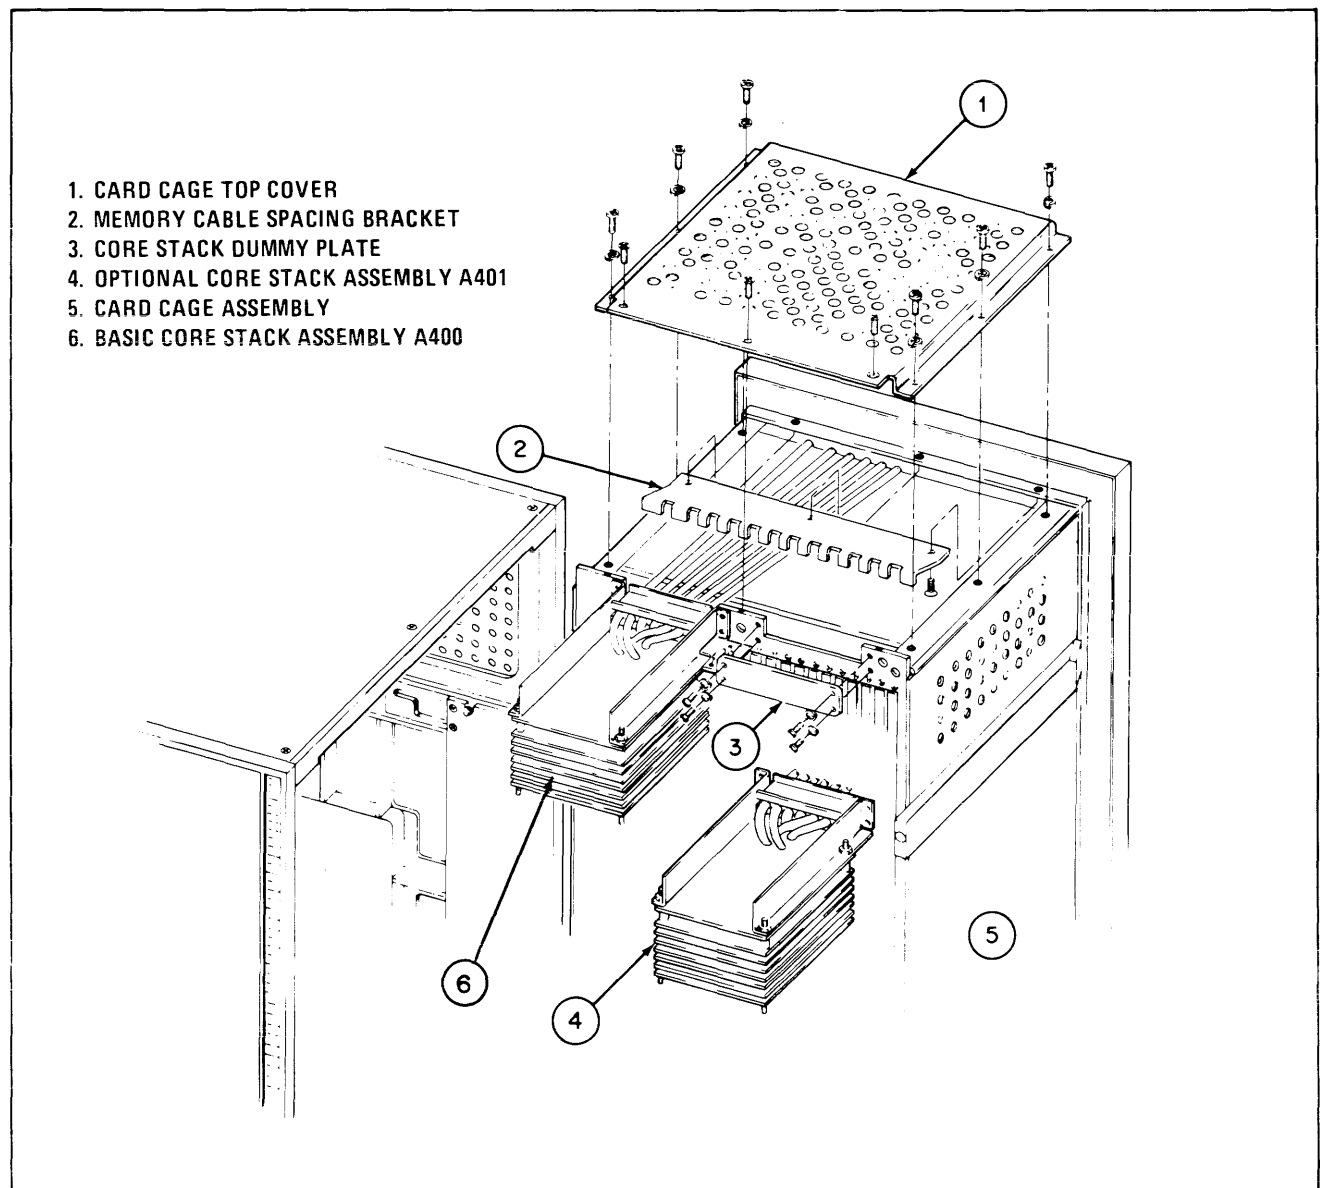
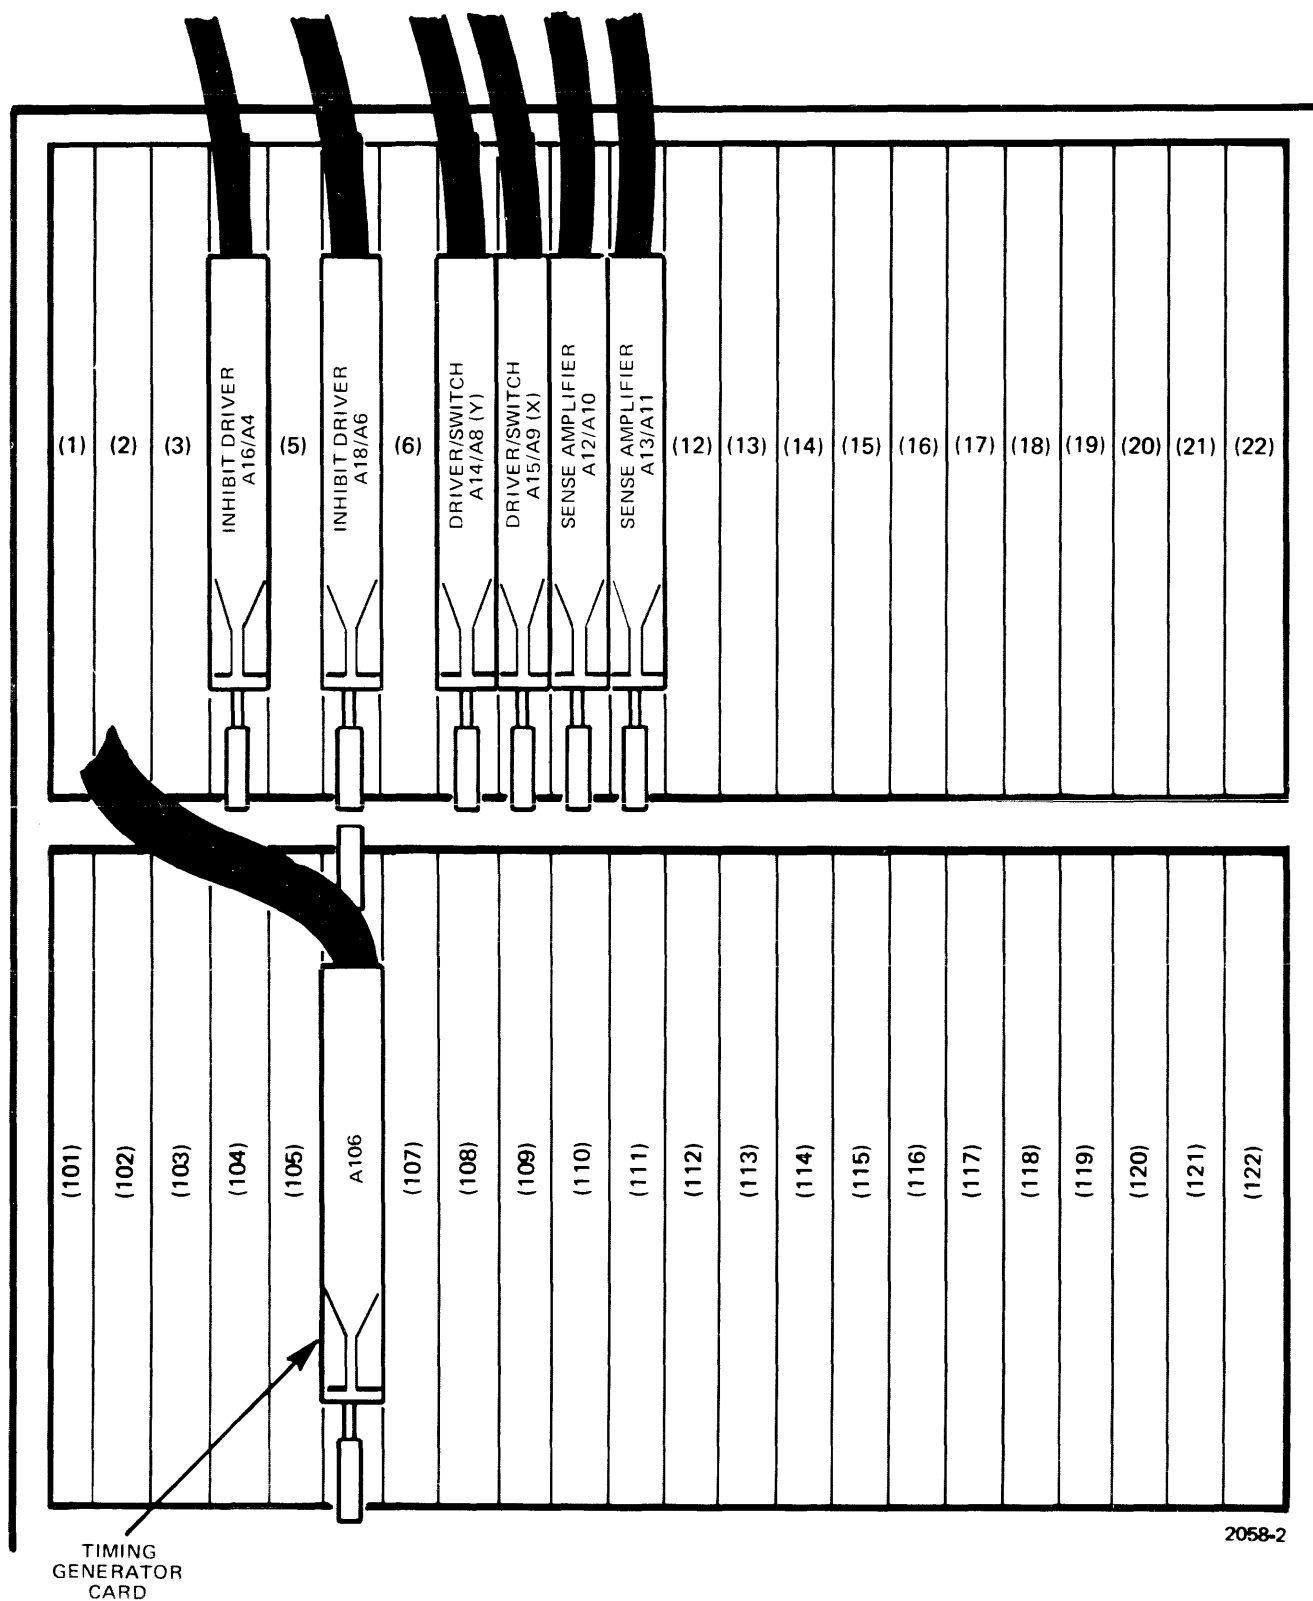

Figure 2-1. Installation of Core Stack Assembly
Figure 2-2. Front View of the Card Cage Showing the Location of Cards, Cables, and Connectors Associated with the 16K Memory Option
- c. Open the door assembly to expose the front of the card cage assembly (5, figure 2-1). Remove the four retaining screws securing the card cage to the mainframe. Fully extend the card cage from the cabinet until it locks
in place. Then swing the card cage to the position shown in figure 2-1 to provide access to where optional core stack assembly A401 is to be mounted.
f. Check the routing of the memory cables from A401 to the front of the card cage. Make sure that the cables are not crossed and that the hooded connectors align with the proper card slots (see figure 2-2).
g. Replace the memory cable spacing bracket (2, figure 2-1). When installing this bracket, make sure that the memory cables are not pinched or strained.
h. Carefully inspect the installation of core stack assembly A401. Make sure that all hardware items have been replaced and tightened. Then replace the card cage top cover (1).
j. Check that the part numbers of the sense amplifiers installed in slots 12 and 13 of the computer are the same as the part numbers of the two sense amplifiers supplied in the accessory kit. The part numbers must be the same. Then install all six optional cards in the slots shown in figure 2-2.
k. Connect the memory cable connectors to the 48-pin edge of the optional cards. The proper connections are indicated by the markings on the cable hoods, as shown in figure 2-2.